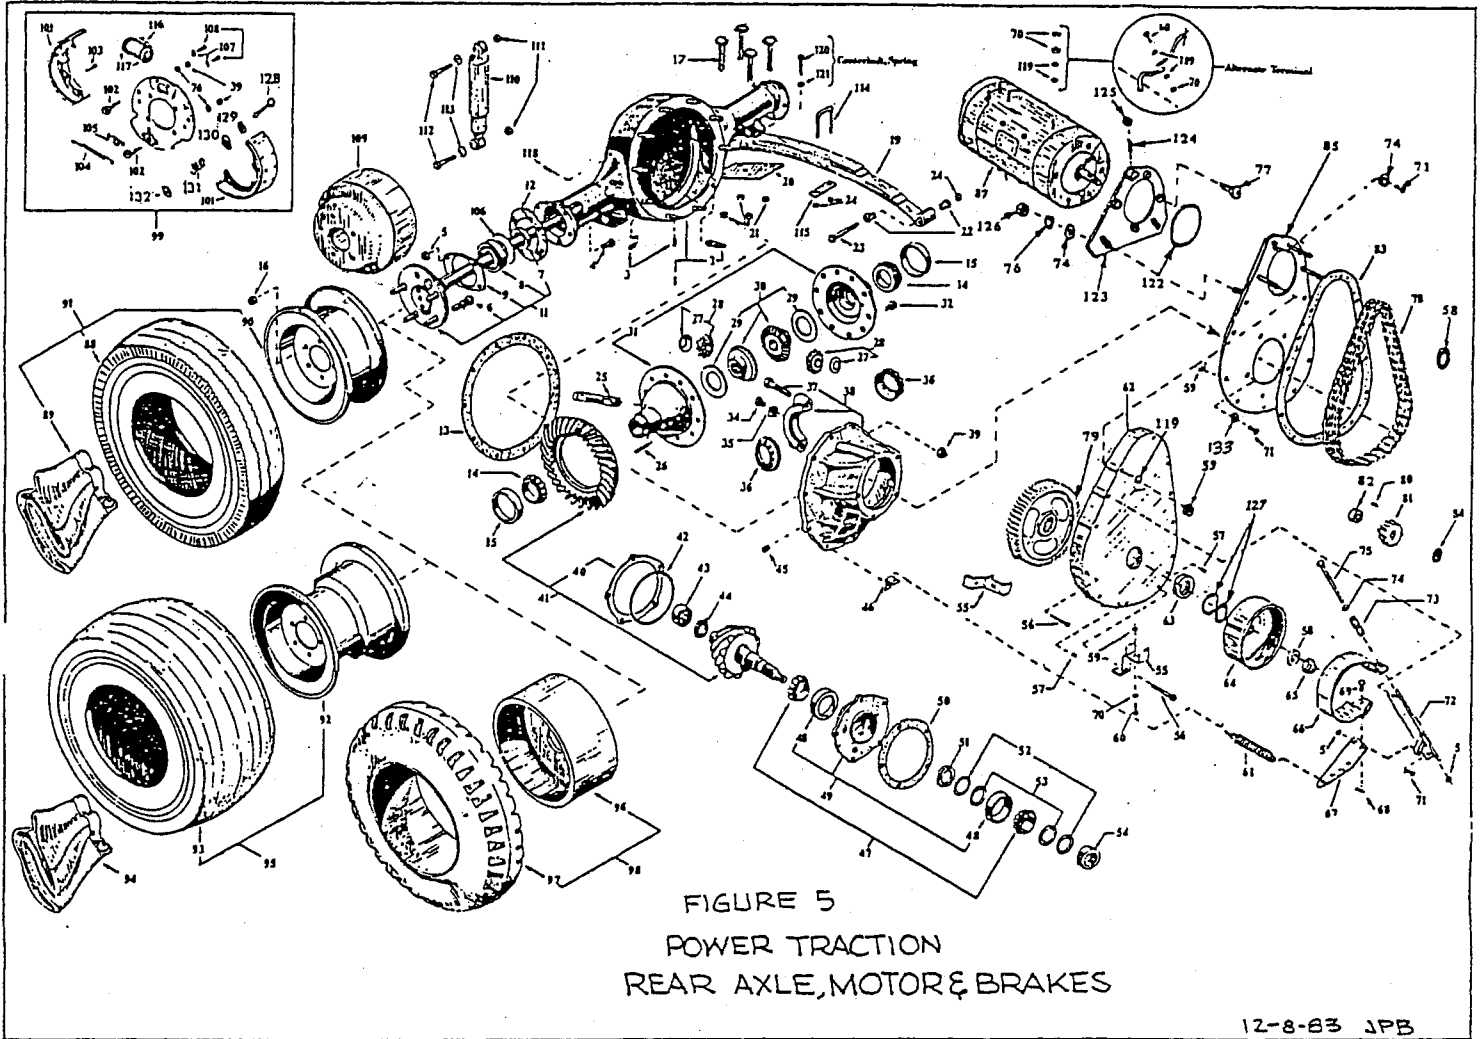

FIGURE 5
7. Remove chain and pinion sprocket. Observe location of spacers on shaft. Refer to Figure 5 for their correct location.
5. Shim Selection: Manufacturing tolerances in the pinion bore dimensions and in the best operating position of the gears make an adjustment shim necessary. This shim is placed between the pinion retainer and the carrier, Figure 5. An increase in the thickness of the shim moves the pinion AWAY from the drive gear. Manufacturing objectives are to make axles requiring a .0015" shim and if a new assembly is being built, a .0015" shim should be used for a tentative build-up. Shims are available in .010" to .021" thicknesses in the steps of .001". Pinions and drive gears are marked, when matched, with the same number. Following the number on the pinion is a minus (-) or (+) followed by a number. If the pinion is marked "-1" it indicates that a shim .001" thinner than a standard shim for this carrier is required. A minus number means the pinion should be moved closer to the drive gear and a thinner shim is required. A plus number means the pinion should be moved farther from the drive gear and a thicker shim is required. A pinion marked zero (0) is a standard pinion. To select a shim, measure the original shim with a micrometer (note the dimensional mark on the original pinion). Compare the mark on the original pinion with the mark on the new pinion to determine how the original shim should be modified. For example, if the original shim is .015" and the original pinion is marked "-1", the new pinion requires a +1 shim. Therefore, the new pinion requires a .002" thicker shim, and a .017" shim should be used. If the new pinion is marked the same as the old pinion, no shim change is required.
11. Install axles, brake assemblies (on models with hydraulic brakes), bearing retainers, and gaskets. NOTE: Axles are equipped with special sealed bearings. Should there be evidence of seal leakage, it is recommended that a new bearing and new bearing retainer ring be pressed onto the axle shaft, and new gasket be installed between the bearing and bearing seat in the housing. Refer to Figure 5.
REFER TO FIGURE 5